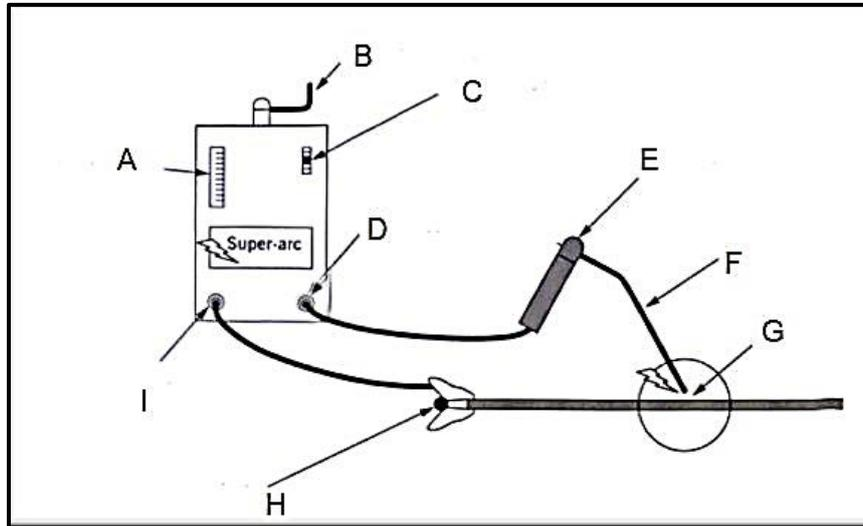

FIGURE 6.2
6.2 Label the sketch in **FIGURE 6.2** below. (9)